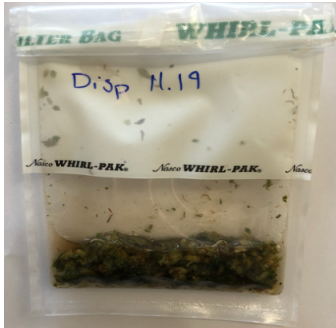

Figure 3: Homogenized cannabis flower and TSB.
10. If processing multiple samples, be sure to change gloves between each sample to ensure that there is no cross contamination between samples during the weighing process. See flower example in Figure 3.